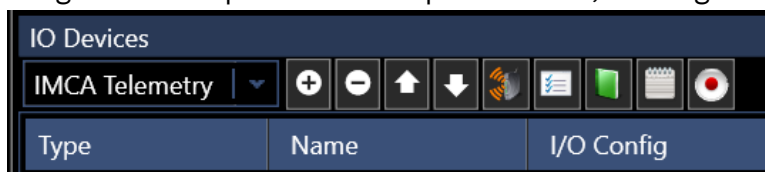

Figure 3 IO Devices Window
2. Select Configurable Output in the drop-down list, see Figure 3